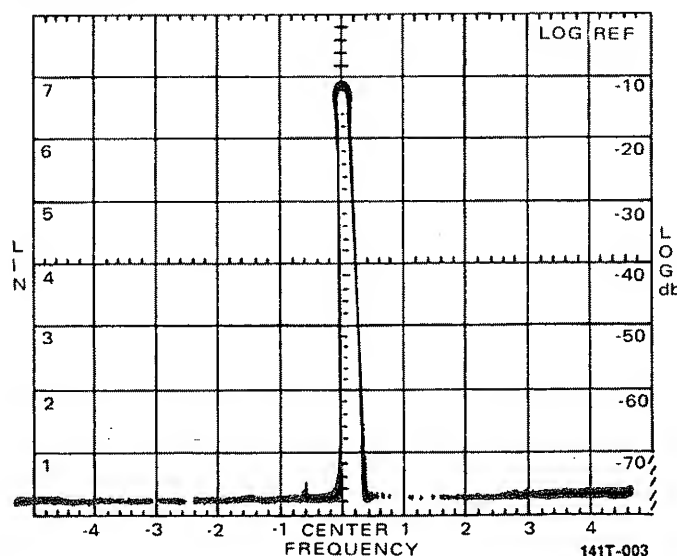

Figure 5-1A. Spectrum Analyzer Intensity Limit Adjust
- Turn A2R65 slowly cw until crest of trace is bright with rest of trace barely visible as shown in figure 5-1A.